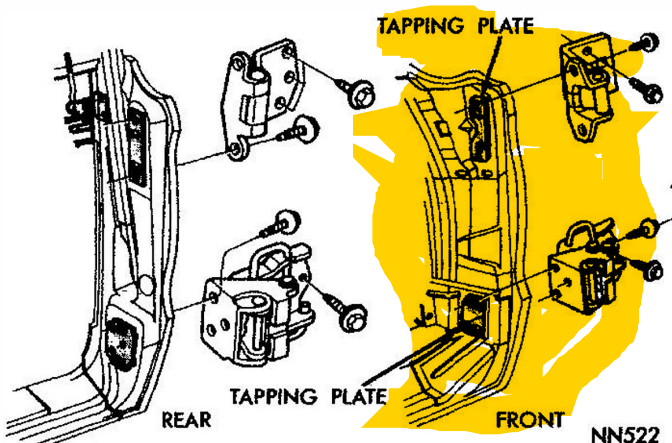
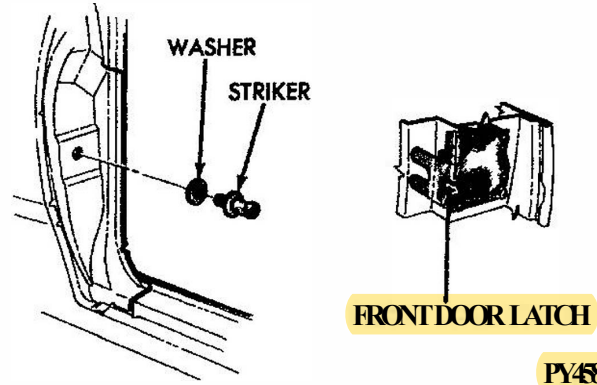
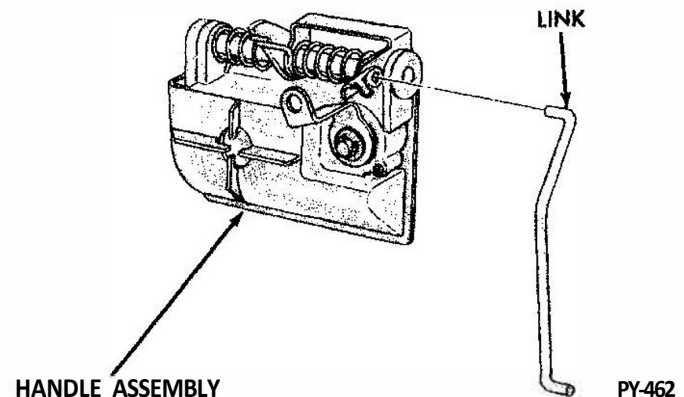

fig. 13-Door Hinges
fig. 14-Door latch Striker Adjustment
fig. 15-Latch Link
Adjustment of the door can be made at either the pillar or door hinge halves (Fig. 13).
**DOOR LATCH STRIKER ADJUSTMENT (Fig. 14)**
- (1) Open door and install fixture into latch opening located on panel door inside and secure.
- (2) Close door, then open door and determine if washer is necessary for spacing.
- (3) Install striker to door, install latch, then partially close door until striker lines up with latch.
- (1) Check all doors for contour and spacing, and all door lock strikers for proper relation to locks. Fit and readjust as follows:
- (2) Open doors.
- (3) Loosen door latch striker (Fig. 14).
- (4) Loosen the necessary hinge bolts to suit each door as follows: (Fig. 13).
- half) (2) upper and (3) lower bolts.
- (5) Readjust and fit doors to door openings for alignment of contour lines and belt surfaces.
- (6) Secure previously loosened hinge bolts (Fig. 13).
- (7) Readjust door latch striker.
- (8) Tighten and retorquer striker to 40 to 60 foot-pounds (Fig. 14).
- (9) Close doors.
**LATCH LINK (Fig. 15)**
Assemble link, front door latch (Fig. 15) to lever of handle assembly, (close clip).